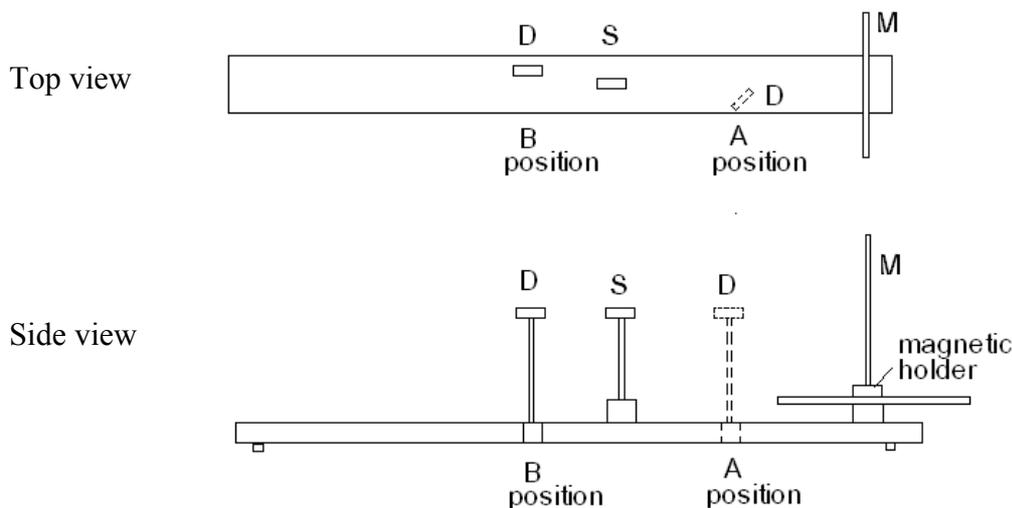

Fig. 2.1. Study of the wave interference.
Using the instruments 1-8 shown in the above list, assemble the experimental set up shown in Fig. 2.1 and study the interference of the wave. To reduce possible undesirable interference be cautious and place other instruments away from detector. Connect the functional generator to the Source and set the frequency at 40kHz.
2a.1. Place the detector in Position A which is shown in Figure 2.1 and observe the dependence of the detected signal level on the positions of S, M and D. When the detector is too close to the source there will occur unclear effects, therefore do not measure in close distance to the source. Remember the detector has angular sensitivity. The detector should be placed for optimum measurement.
2a.2. Place the detector in Position B which is shown in Figure 2.1 and observe the dependence of the detected signal level on the positions of M and D. The position of S should be fixed.
- a. The standing wave will be observed between the S and M (Fig. 2.1). This standing wave will occur for any values of the distance between S and M.